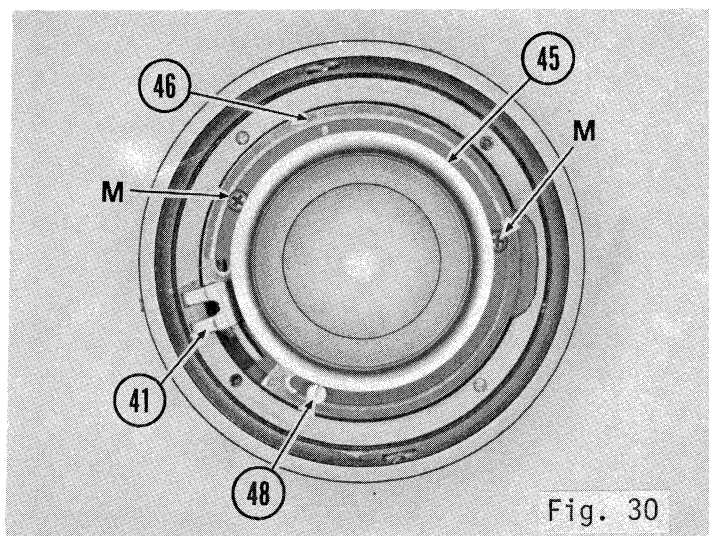

Fig. 30
4.2.6 Hold Diaphragm Lever clockwise against stop (which is Diaphragm Limit Ring 46), and measure the aperture size. A rod of $4.6 \pm 0.3\text{mm}$ should just pass through the hole (a $3/16$ " drill bit is nominally 4.76mm , which is within tolerance). (Figs. 30 and 31)
- 4.2.7 If aperture size is incorrect loosen Post Screw (48) and two screws (M), which hold the Diaphragm Limit Ring (46) in position. Rotate limit ring clockwise or counterclockwise as required, to achieve correct aperture size. (Fig. 30)